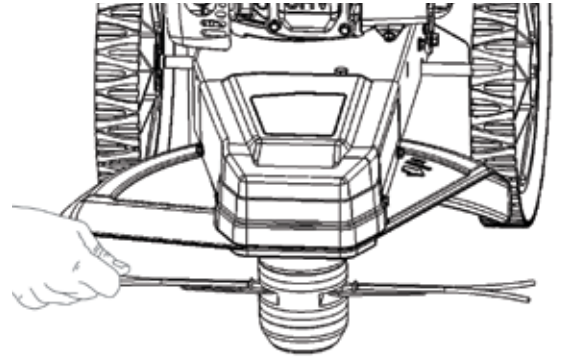

Figure 5
1. Insert the end of the cord into the side openings in the line plate (see Figure 5).